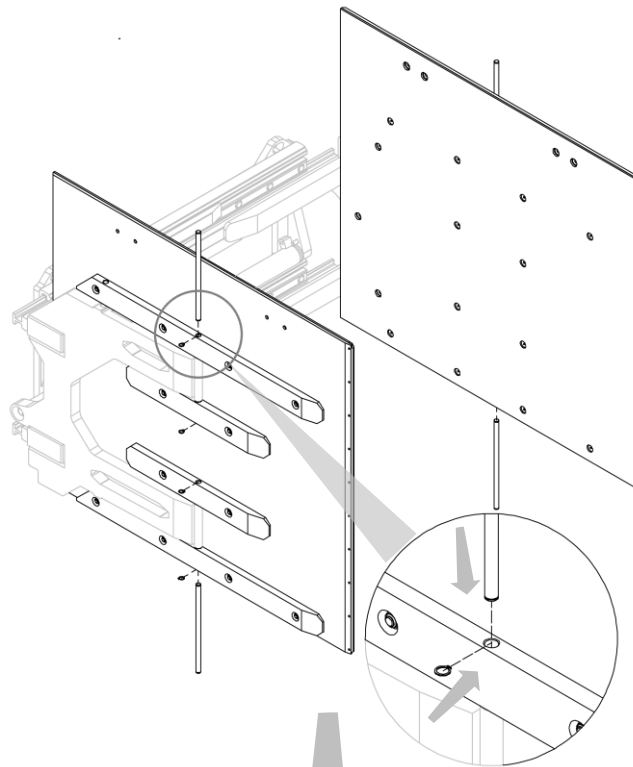
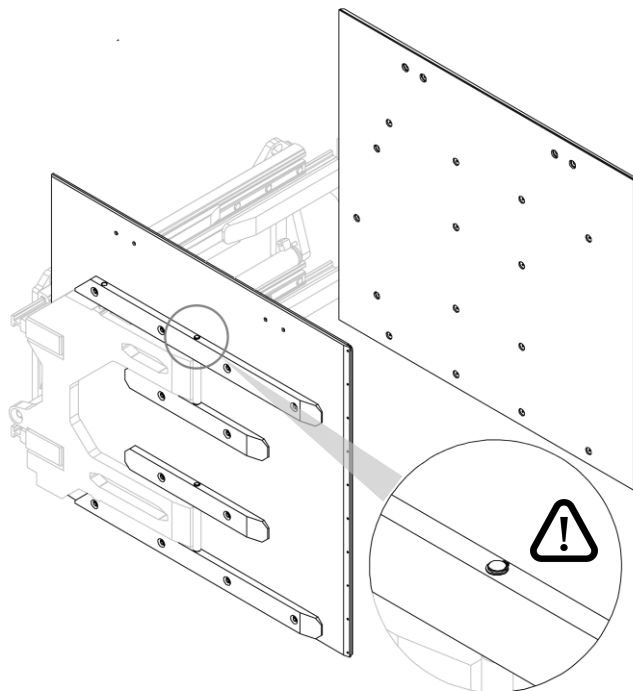

Figure 18
Figure 19
3. Position the panels (with their corresponding plates) onto the forks, taking care to position the fastening pins, with their snap rings, correctly (see *Figure 18* and *Figure 19*).